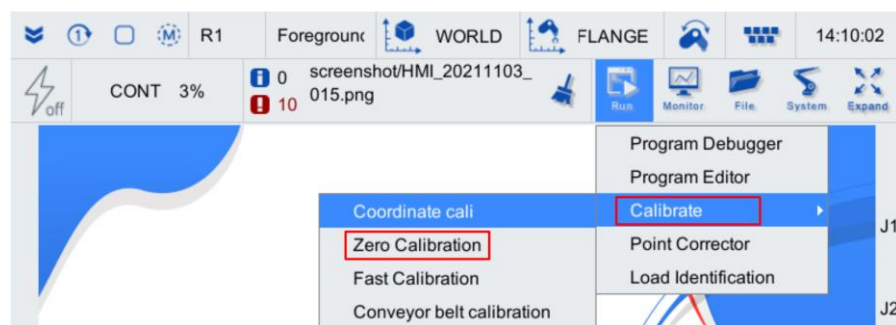

Figure 4-13 Main interface diagram
Step 2. Select [Run/Calibrate/Zero Calibration] on the main interface of the teach pendant, as shown in Figure 4-13.